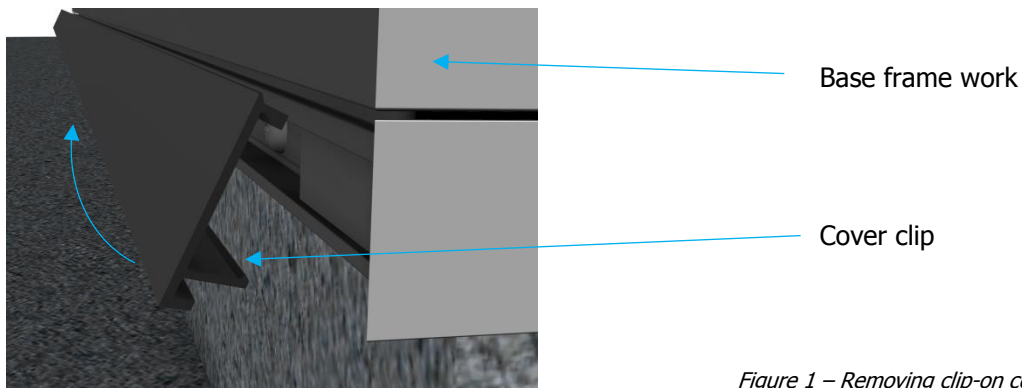

Figure 1 – Removing clip-on cover
2. Remove clip on covers around lower perimeter of rooflight. This is done by first pulling the bottom to release as shown in *Figure 1*. Take care not to deform the section or scratch any powder coat.